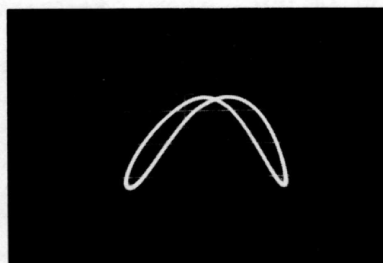

Figure 14. Proper Adjustment of C-2 Showing Synchronized 19 kc and 38 kc Signals
3. Connect a lead from pin 1 of V-2 to the "H Input" terminal of the oscilloscope. Set the oscilloscope selector switch to "H Input". Adjust the horizontal gain for approximately 2 inches of horizontal deflection. Set the FREQUENCY switch of the Simulator to "38 Kc". Adjust C-2 so that the 38 Kc signal from the output cable synchronizes with the 19 Kc signal from V-2, pin 1. See Figure 14. Make this adjustment so that C-2 is at the least amount of capacity needed to solidly lock the 38 Kc signal. Excess capacity will cause the 38 Kc amplitude to change.